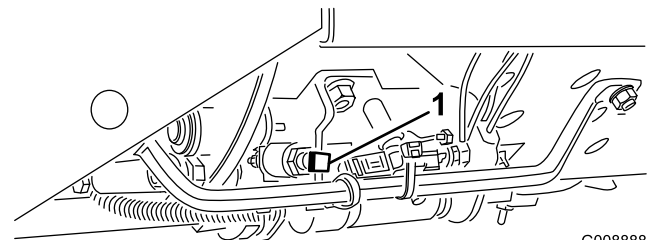

Figure 14
**Important:** The mow speed is set at the factory to 6 MPH (9.7 km/h). It can be increased or decreased by adjusting the speed stop screw (Figure 14).